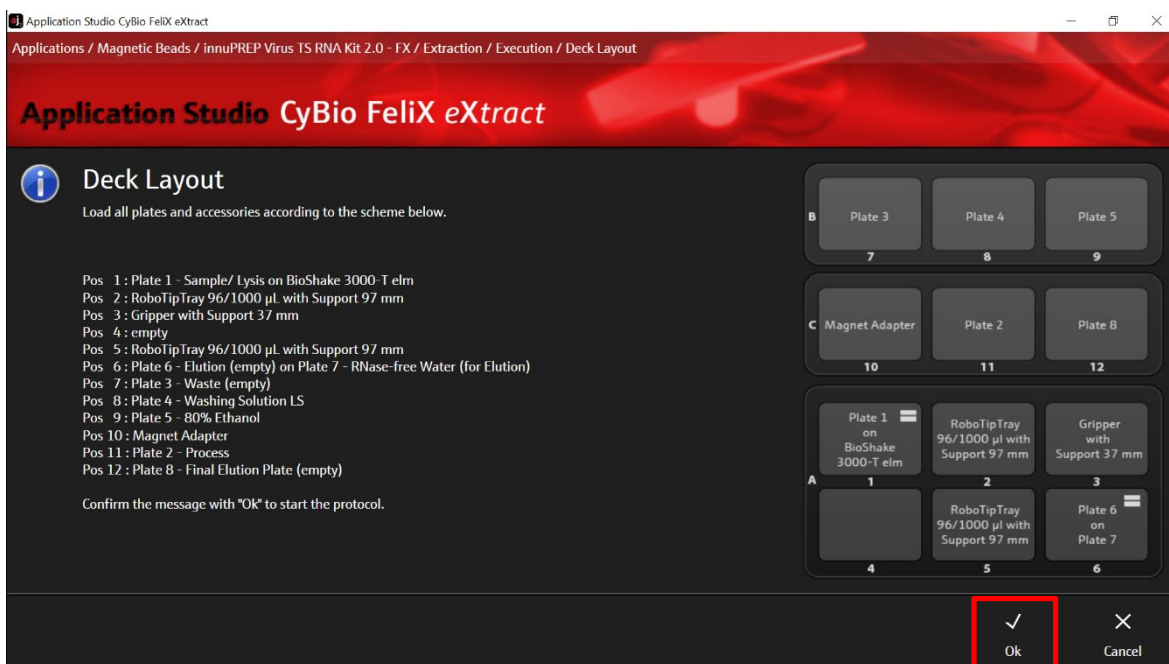

Figure 25: Deck layout for checking the correct positions of plates and accessories.
9. Confirm the “Process completed” message with “Ok” (→ see Figure 25).